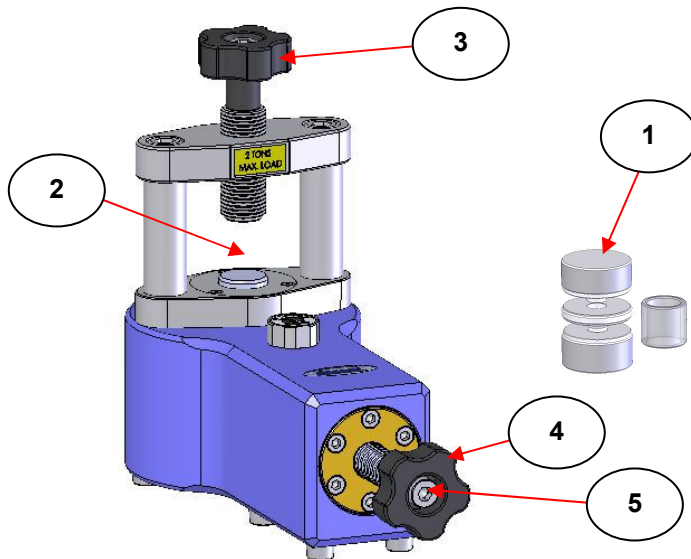

Fig 1. Mini-Pellet Press and 7mm Pellet Die Assembly
The produced 7mm KBr pellet is retained within the pellet die ring holder body (6) and this is transferred to a 3" x 2" slide mount (7) to fit in the spectrometer. (See Fig 1.)